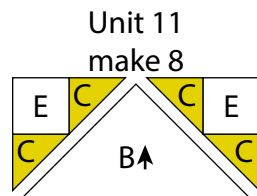

Fig. 19
22. Follow Figure 19 and sew together (4) $2\frac{3}{8}$ " Fabric C triangles, (2) 2" Fabric E squares and (1) $7\frac{1}{4}$ " Fabric B triangle to make (1) $3\frac{1}{2}$ " x $6\frac{1}{2}$ " Unit 11 strip. Repeat to make (8) Unit 11 strips total.